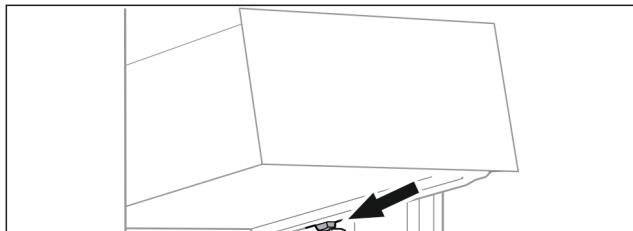

Fig. 67
- Place drawer at an angle behind the stoppers on the moulded rib. (see Fig. 67)